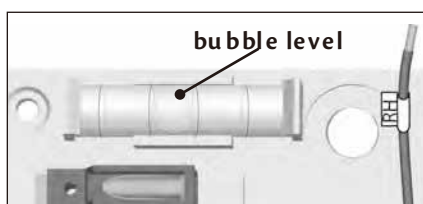
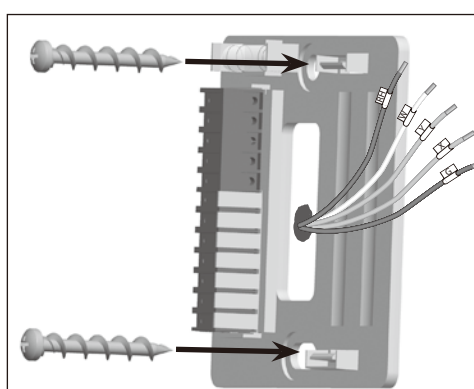

Figure 7.
Figure 8.
3. Using a Phillips Screwdriver, Partially install 1 screw into the top hole of the thermostat. Ensure the thermostat is level using the bubble level on the wall plate, Figure 7, then install the other screw. Tighten both screws until secure. Figure 8.
Note: Do not insert the wires into the holes in the top of the mounting block. The wires should be inserted into the front close to the hole in the mounting plate. See Figure 8.